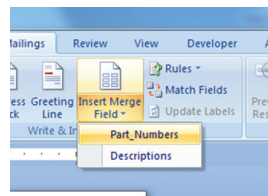

FIGURE 11 Press the bottom half of the Insert Merge Field button to display column header names.
I. Now click on the **bottom half** of the **Insert Merge Field** button on your Word toolbar (Fig. 11). The names of your column headers will be displayed.